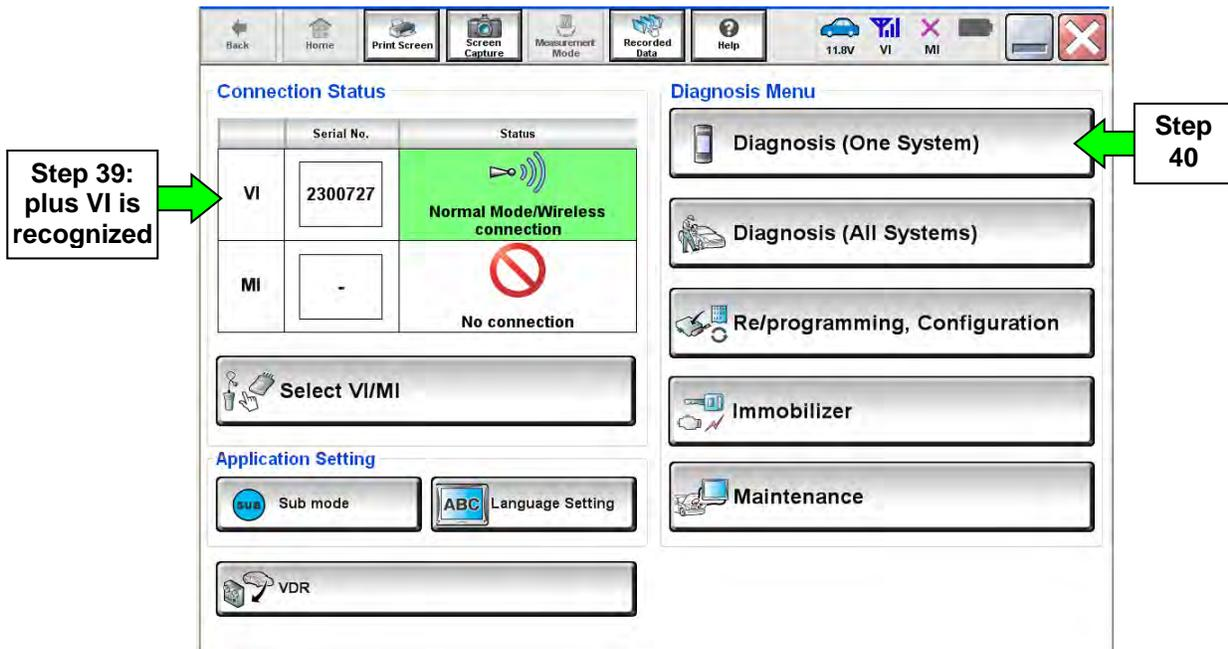

Figure 31
37. Return to the C-III plus Home screen (see Figure 31).